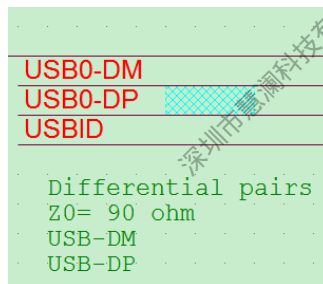

Figure 2-34 The Trace Impedance Requirement of USB Signal
- Mark the trace impedance requirement of the USB signal in the schematic diagram to facilitate PCB layout design. As shown in Figure 2-34.